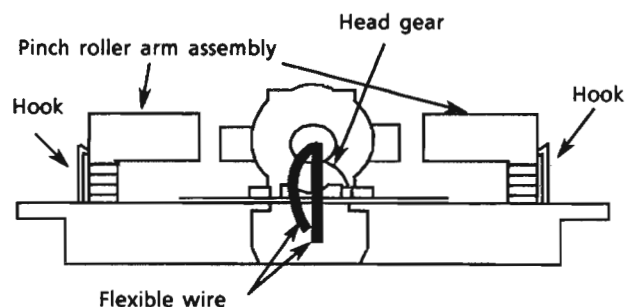

Fig. 12
2. Unsolder the flexible wire (Fig. 12).
2. Release the hook holding the pinch roller arm assembly to remove the assembly (Fig. 12).